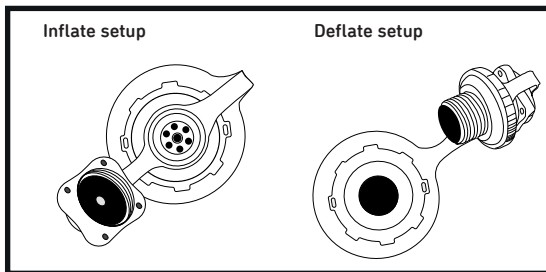

Fig. 2
5. Make sure the pump valve is in the INFLATE SETUP (Fig. 2).
- the inflation valves on three legs are closed, and one is set to the inflation position (Fig. 2),